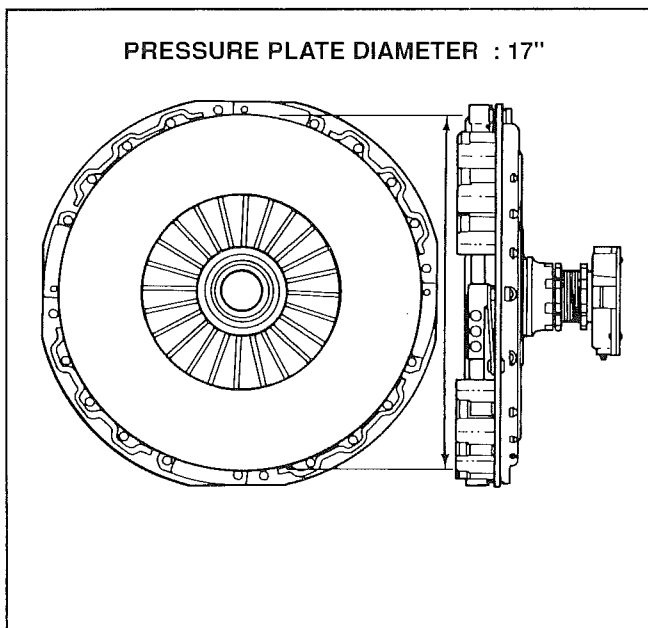

Figure 4-8. Measuring Points on Pressure Plate for 17-inch Clutch (Flat Type)
- Measure the pressure plate diameter (Fig. 4-8).